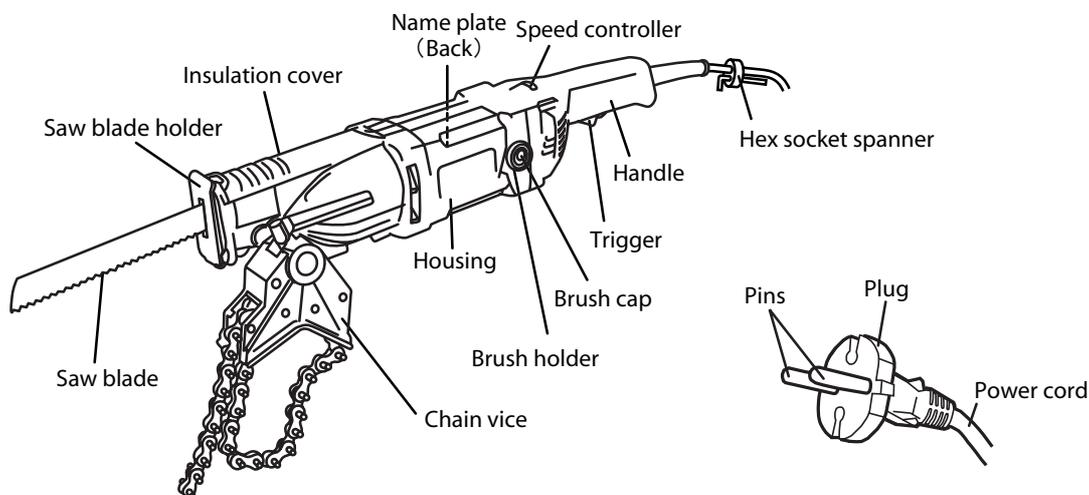

Fig. 1
- 1) Do not remove the insulation cover. (Fig.1)